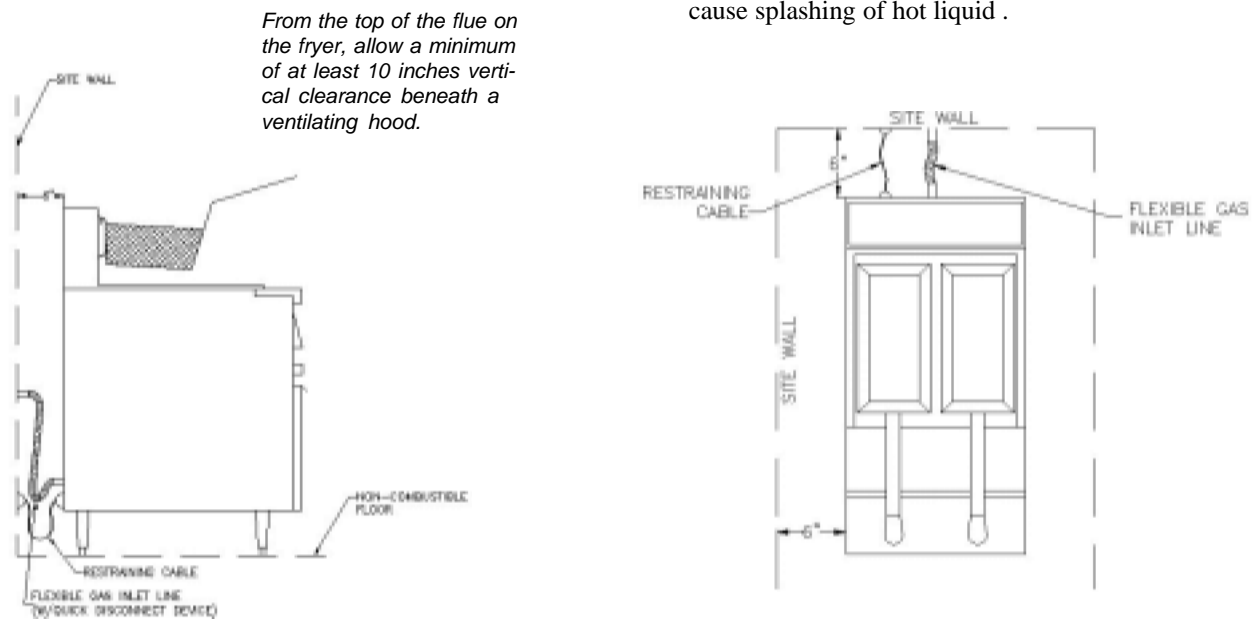

Figure 2. Fryer Model SLG40 Site Installation Requirements
e. Install this fryer on a non-combustible floor with its back and sides *at least* 6" away from any combustible wall, as shown in Figure 2.
1. Install one restraining device connector securely into the structure wall directly behind the fryer’s desired location (Figure 2).